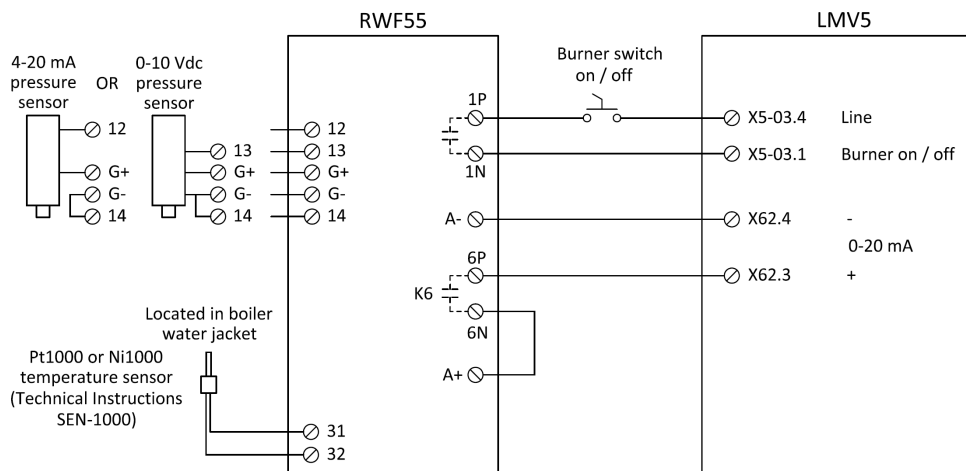

Figure 7: Low Fire Hold via Analog Output on a Steam Boiler
3. Wire the LMV5 and RWF55 as shown in Figure 7: